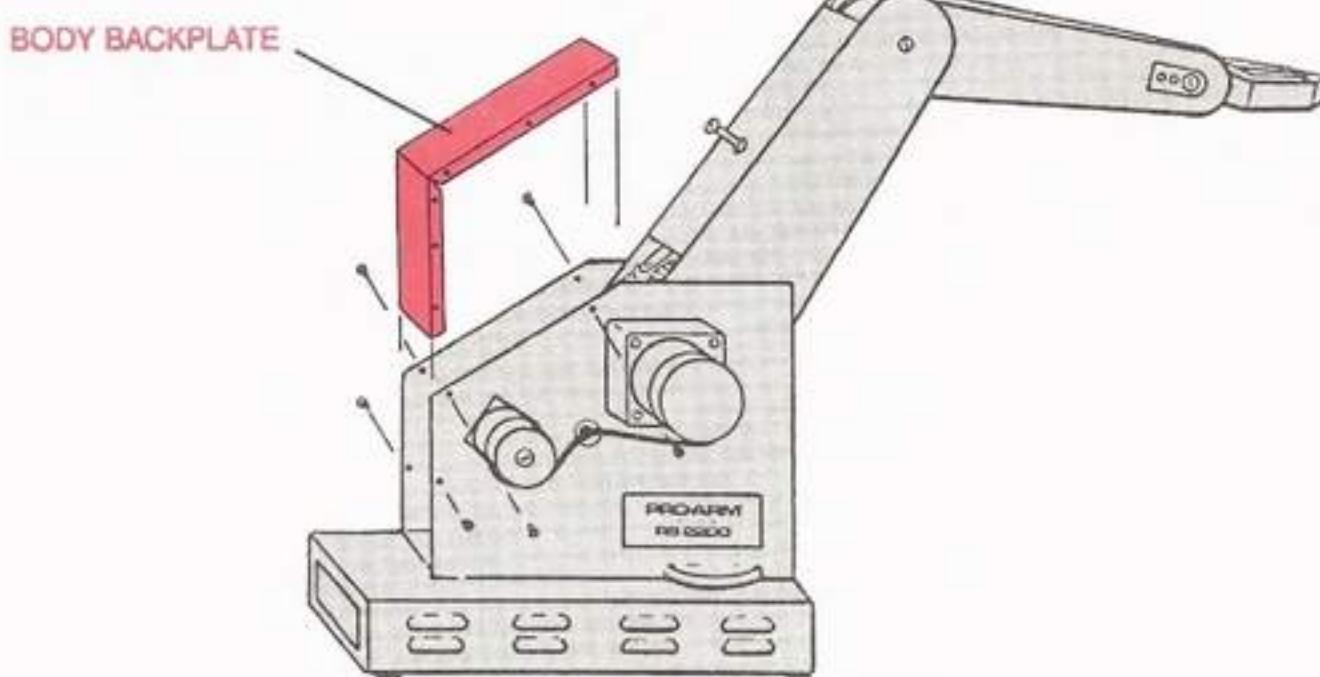

Fig. 95: Removing the Body Backplate
- a. Using the Phillips-head screwdriver, remove the six screws (three per side) holding the Pro-Arm's **body backplate** (containing the unit's serial number), as shown in Fig. 95.